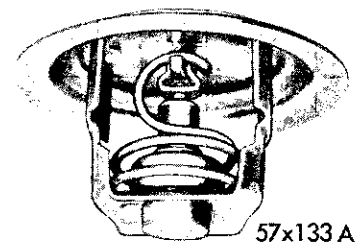

Fig. 8—Thermostat Assembly
- (1) Remove wire at sending unit and turn ignition switch on. Gauge pointer should not move.
- (2) If the pointer moves, the wire is grounded or gauge is faulty.
- (3) Remove wire at dash gauge terminal "GA", and if pointer hand still moves, replace dash gauge; otherwise, replace wire.
- (4) If gauge does not move when wire on sending unit is removed, replace the sending unit.
10. THERMOSTAT (Testing) (Fig. 8)